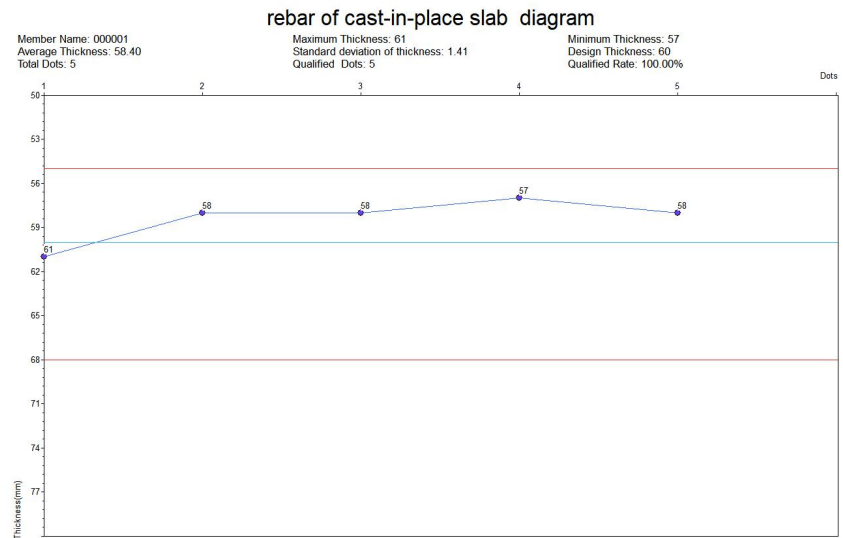

Figure 4.13
(2) Profile scan: when users view an object of profile scan, the interface shown in Figure 4.13 is displayed, where the Y coordinate represents thickness of protective layers, the X coordinate represents specific positions of rebars, each dot represents a rebar, the blue dot represents it is within the allowable upper and lower deviation range, the red dot represents it is below the allowable deviation, and the yellow dot represents it is above the allowable deviation.